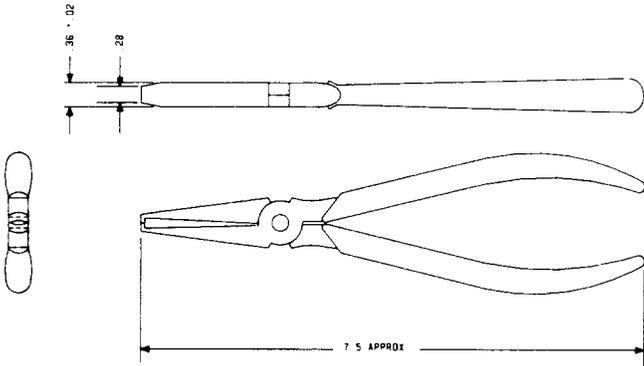

Fig. 13—KS-21279, L1, Subminiature Jack Extractor
2.14 ♦KS-21279, L1: The KS-21279, L1, subminiature jack extractor tool (Fig. 13), is used for inserting and removing subminiature jacks like the KS-20804 type used on L-multiplex Systems.